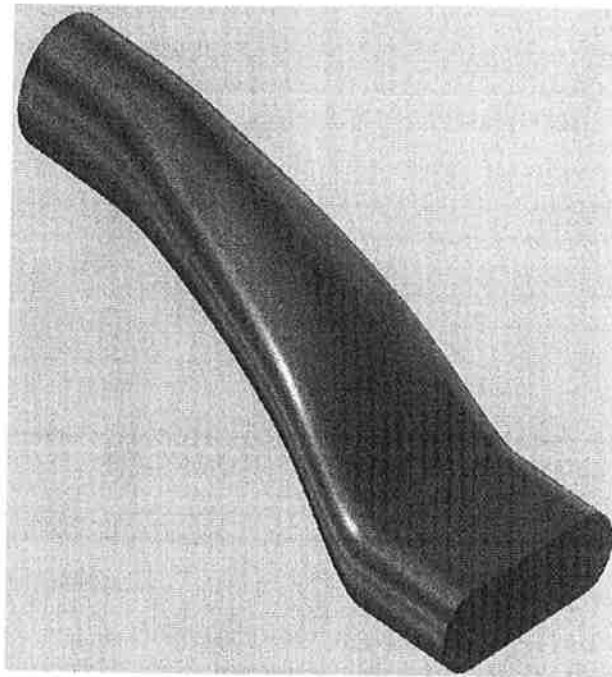

Figure 12–26
7. Click **OK**. The model displays as shown in Figure 12–26.